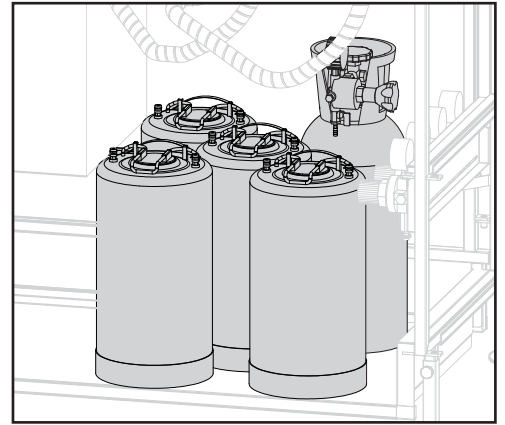

Figure 19
**STEP 16:** Slide in second regulator bracket in Flash Bar's middle channel, on the right side frame. Place CO2 tank as shown below. Make sure to strap down tank using lashing strap installed in STEP 10. Lastly, place kegs as shown in Figure 19.